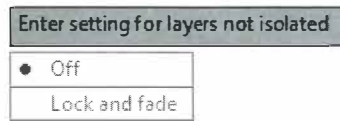

Figure 1–67
- The layers that are not selected to be isolated are either locked and faded or toggled off. To change this, start the **Layer Isolate** command, select **Settings**, and select the required option, as shown in Figure 1–67.